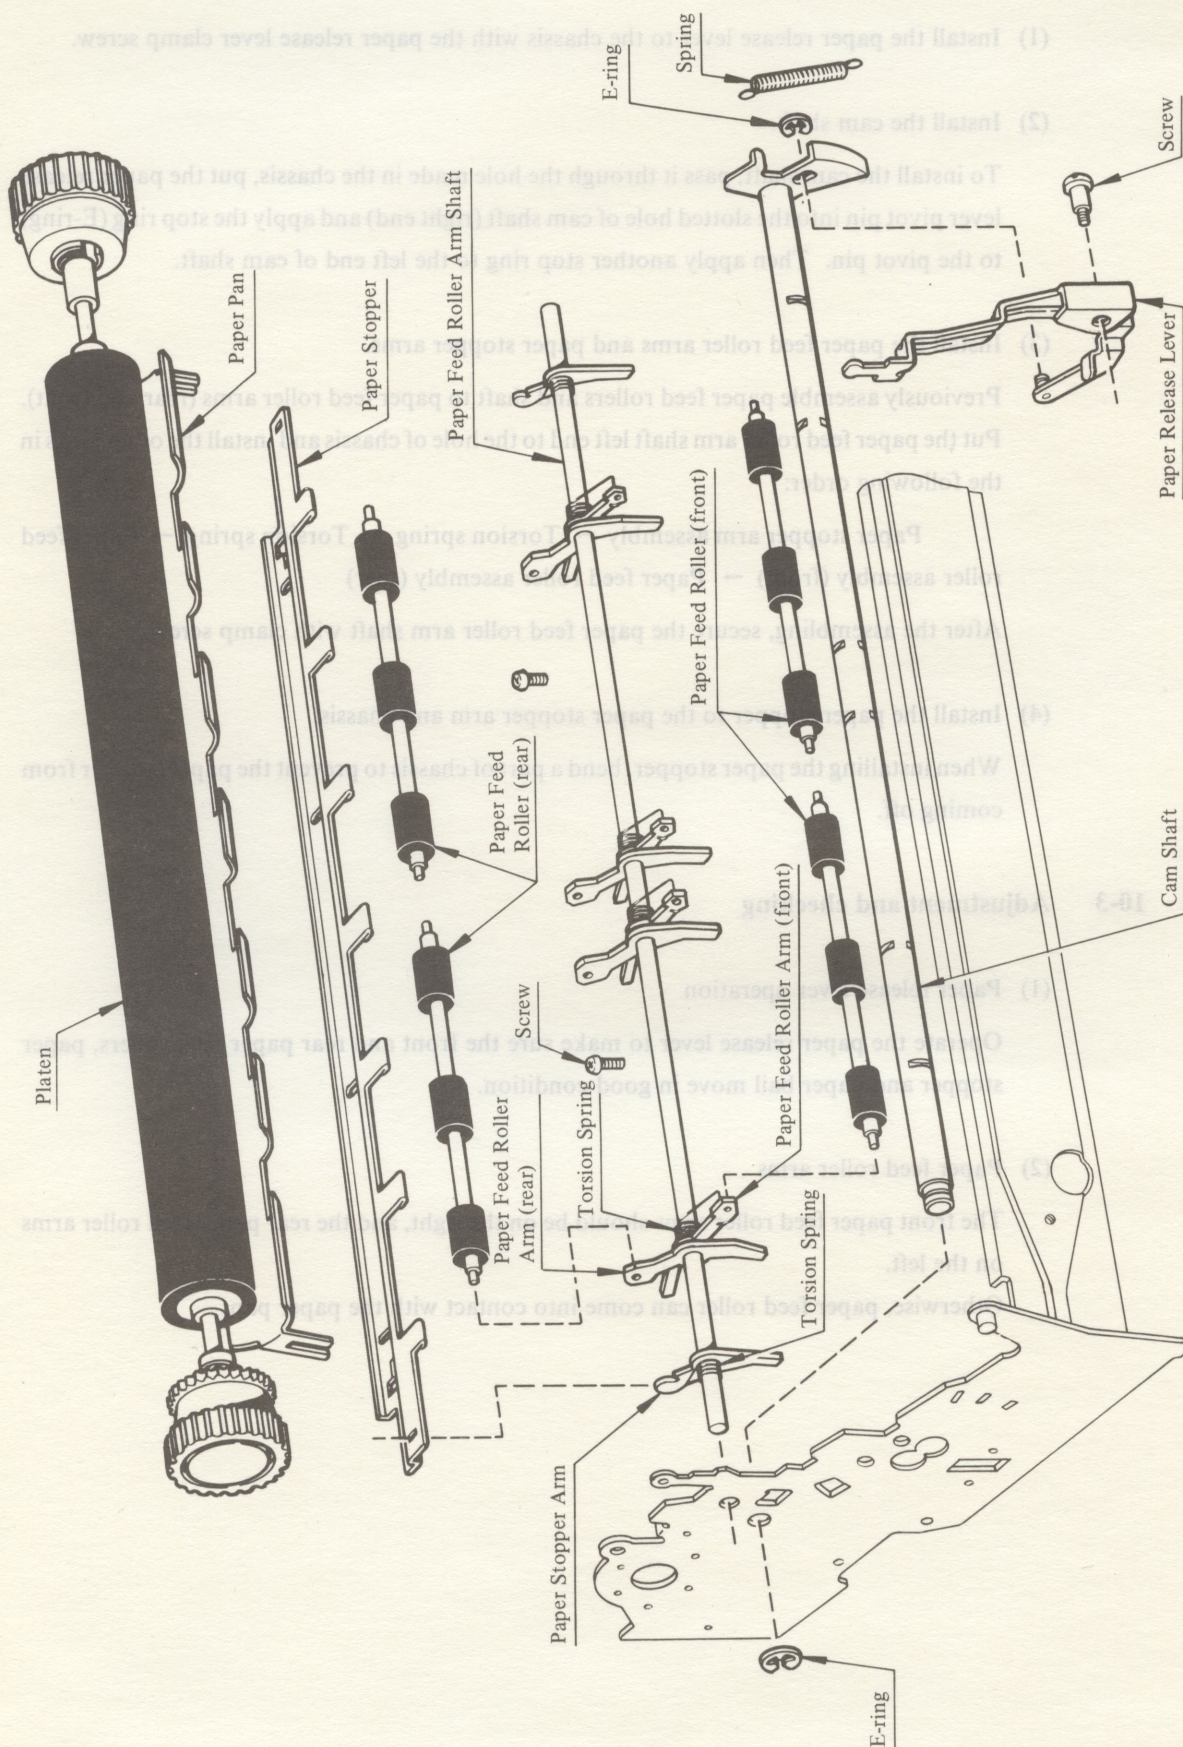

Fig. 10-1
To remove the paper feed rollers, remove the paper feed roller arms (front and rear) and their springs from the chassis. Then remove the front and rear paper feed rollers from the chassis and take out the cam shaft. (Fig. 10-1)
To remove the paper release lever, remove its clamp screw. (Fig. 10-1)
To remove the cam shaft, remove the cam shaft stop ring (E-ring) on the left side of chassis, and the paper release lever stop ring (E-ring) on the right side of chassis, remove the spring from the chassis and take out the cam shaft. (Fig. 10-1)
(Refer to Fig. 10-1)
- (3) Remove the paper stopper from the paper stopper arm and chassis. (Fig. 10-1)
- (4) Remove the paper feed roller arm shaft.
To remove the paper feed roller arm shaft, remove two clamp screws and draw out the shaft. (Fig. 10-1)
- (5) Remove the paper stopper arm and its spring from the chassis. (Fig. 10-1)
- (6) Remove the paper feed rollers.
To remove the paper feed rollers, remove the paper feed roller arms (front and rear) and their springs from the chassis. Then remove the front and rear paper feed rollers from the arms. (Fig. 10-1)